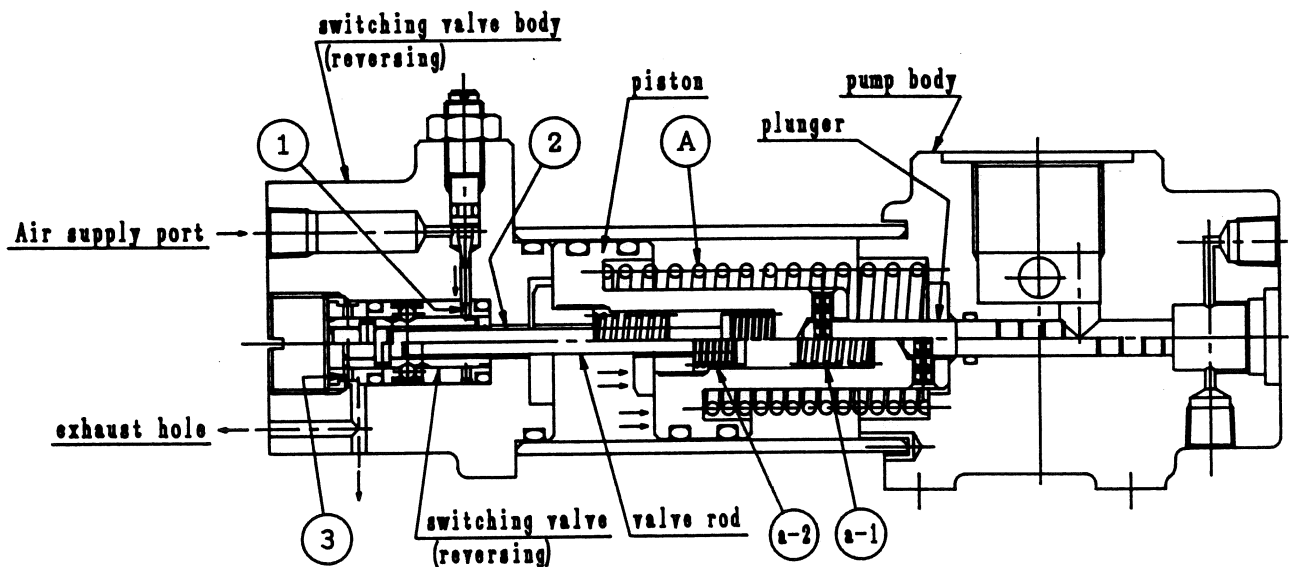

Fig.1
When air is supplied through the air-feed inlet on the switching valve, as shown in Fig.1, the air presses the piston through route (1) and (2).